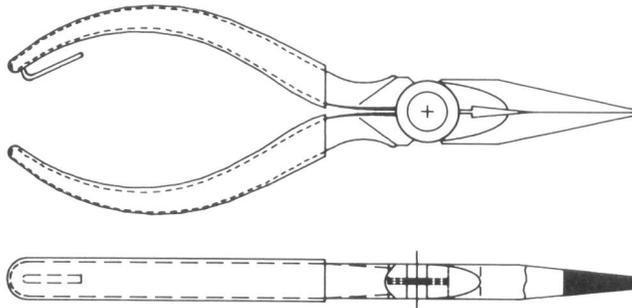

Fig. 9—AT-8810 G Long-Nose Pliers
2.09 AT-8810 G: The AT-8810 G tools are long-nose pliers (Fig. 9) intended for use by installers and other craft persons on small jobs requiring the installation of a few 700-, 701-, or 702-type connectors.